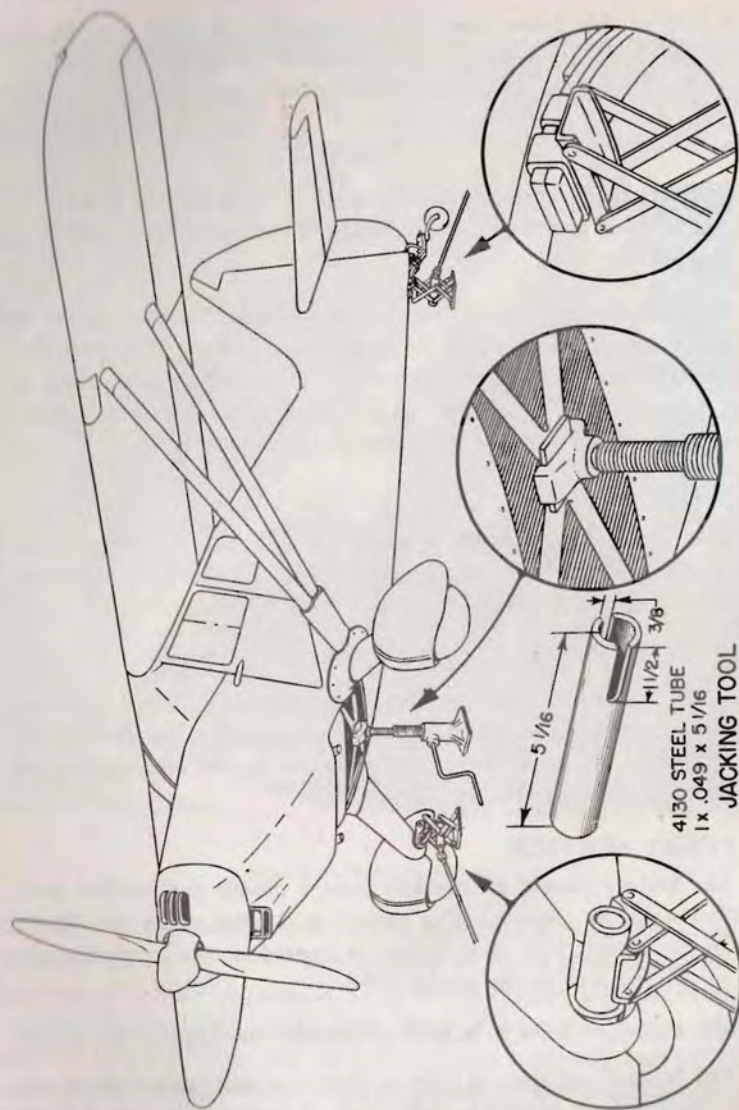

Figure 7—Jacking Airplane
8. The jack points are located at two places underneath the fuselage and at each landing gear leg as illustrated in figure 7. The forward jack point is accessible by detaching the fillets on the landing gear fairing at the fuselage and by removing the metal cover under the fuselage. Place the jack in position on the plate under the frame tube cluster. Pad the jack to prevent damage to the tubes.
10. As illustrated in figure 7, a jack can be used to raise either of the main landing gear wheels by inserting a jacking tool, part No. 108-5901000, in the axle. A jack used here must have a capacity of 1000 pounds, an initial height of four inches, and a stroke of six inches to clear the wheel from the ground if the tire is flat.